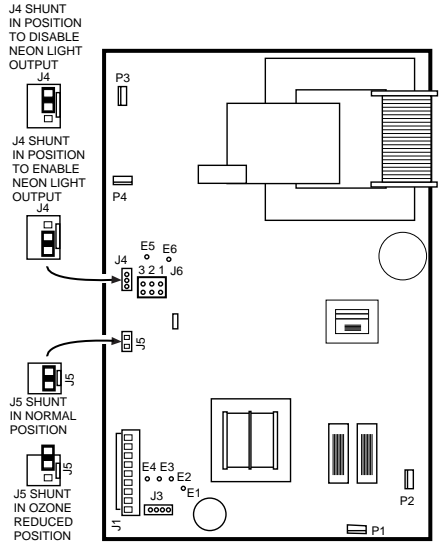

Fig. 18. Components of replacement power supply.
⚠ FOR UNITS WITH NEON LIGHT CONNECTED TO P5 AND P6, REMOVE SHUNT FROM CONNECTOR J4. SEE COMPONENTS OF REPLACEMENT POWER SUPPLY FIGURE 18.
- d. Locate J5 Shorting Bar on the power supply. See Fig. 18. Remove the shorting bar and reinstall on only one pin.